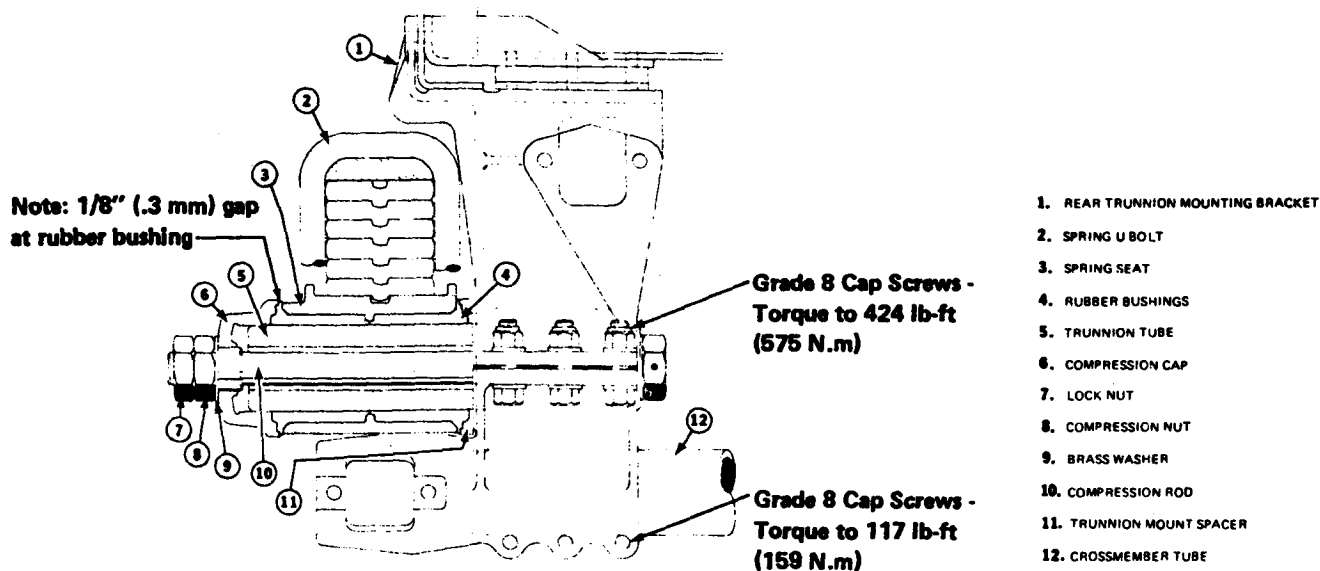

Fig. 2: Trunnion Bushing Assembly
3. Remove the cotter pin from the 2" castle nut and back off this nut. Remove the brass washer and steel tapered washer (Fig. 2).